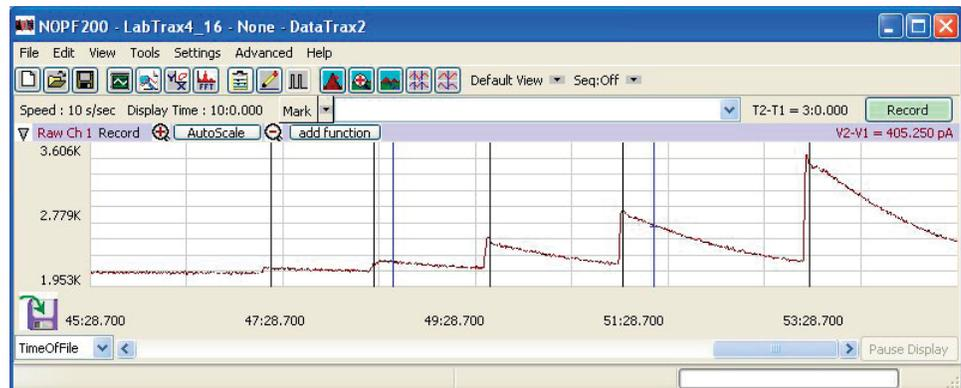

Fig. 44—Raw data for ISO-NOPF200
1. Record data for known samples (Fig. 44). The example used a ISO-NOPF200 probe, and the recording shows the results of nitrous oxide (NO) measurements when 2, 4, 8, 16 and 32 μ L injections of 100 μ M SNAP are introduced into 20mL of 0.1M CuCl₂ solution. The voltage quickly increases with each addition of SNAP. Then, the value steadily decreases due to the quick oxidation of NO. After each injection, the graph shows a small upward peak. This is a normal artifact generated mechanically by the response of adding SNAP to the solution.